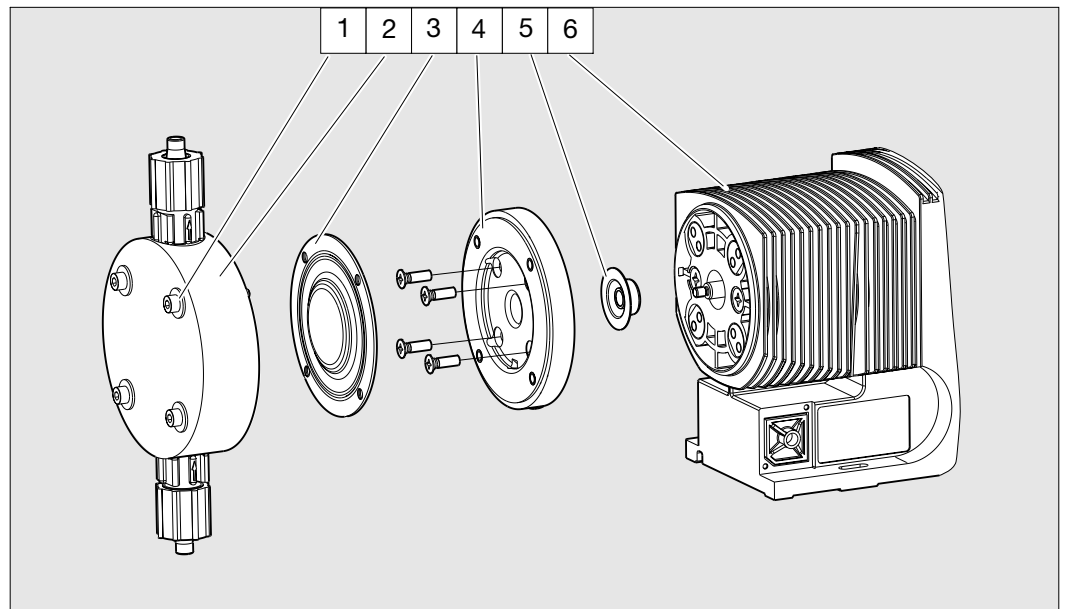

Fig. 22
- ▶ Remove the metering head (2) with the screw (1) from the pump (see fig. 22).
- ▶ Only type 0232: Remove the screws of the set disk (4) below the diaphragm (3).
- ▶ The screws (1) should fit in the holes of the diaphragm (3), but not on the set disk.
- ▶ Hold the housing (6) in one hand and with the other hand, clamp the diaphragm (3) between the liquid end (2) and the top plate (4); release the diaphragm (3) from the drive spindle with a light anti-clockwise turn of the liquid end (2) and top plate (4).
- ▶ Remove the liquid end (2) with screws (1) from of the diaphragm and unscrew completely from the drive spindle.
- ▶ Remove the top plate (4) from the housing (6).
- ▶ Check the condition of the safety diaphragm (5) and replace it necessary.
- ▶ Push the safety diaphragm (5) only as far onto the drive axis until it lies flat on the pump housing (6) – no further!
- ▶ Screw the new diaphragm (3) carefully up to the stop on the drive axis – this must be exact to ensure correct metering!